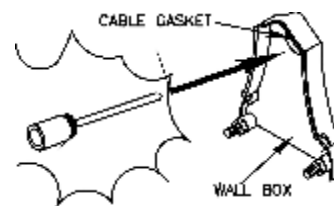

FIGURE 8
- (3) Use a screwdriver to break a small hole on the cable gasket (FIGURE 8), enabling the power cord to enter the back plate. Route the power cord through the cable gasket.